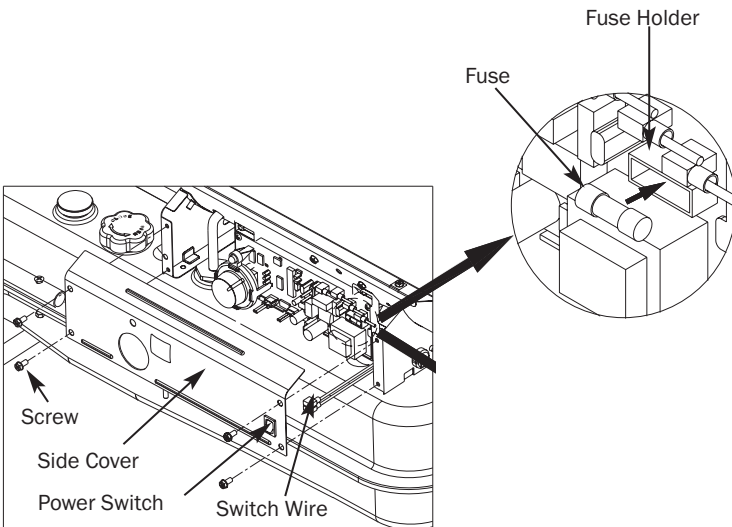

Figure 19 – Replacing Fuse
- Remove fuse from fuse holder (See Figure 19).